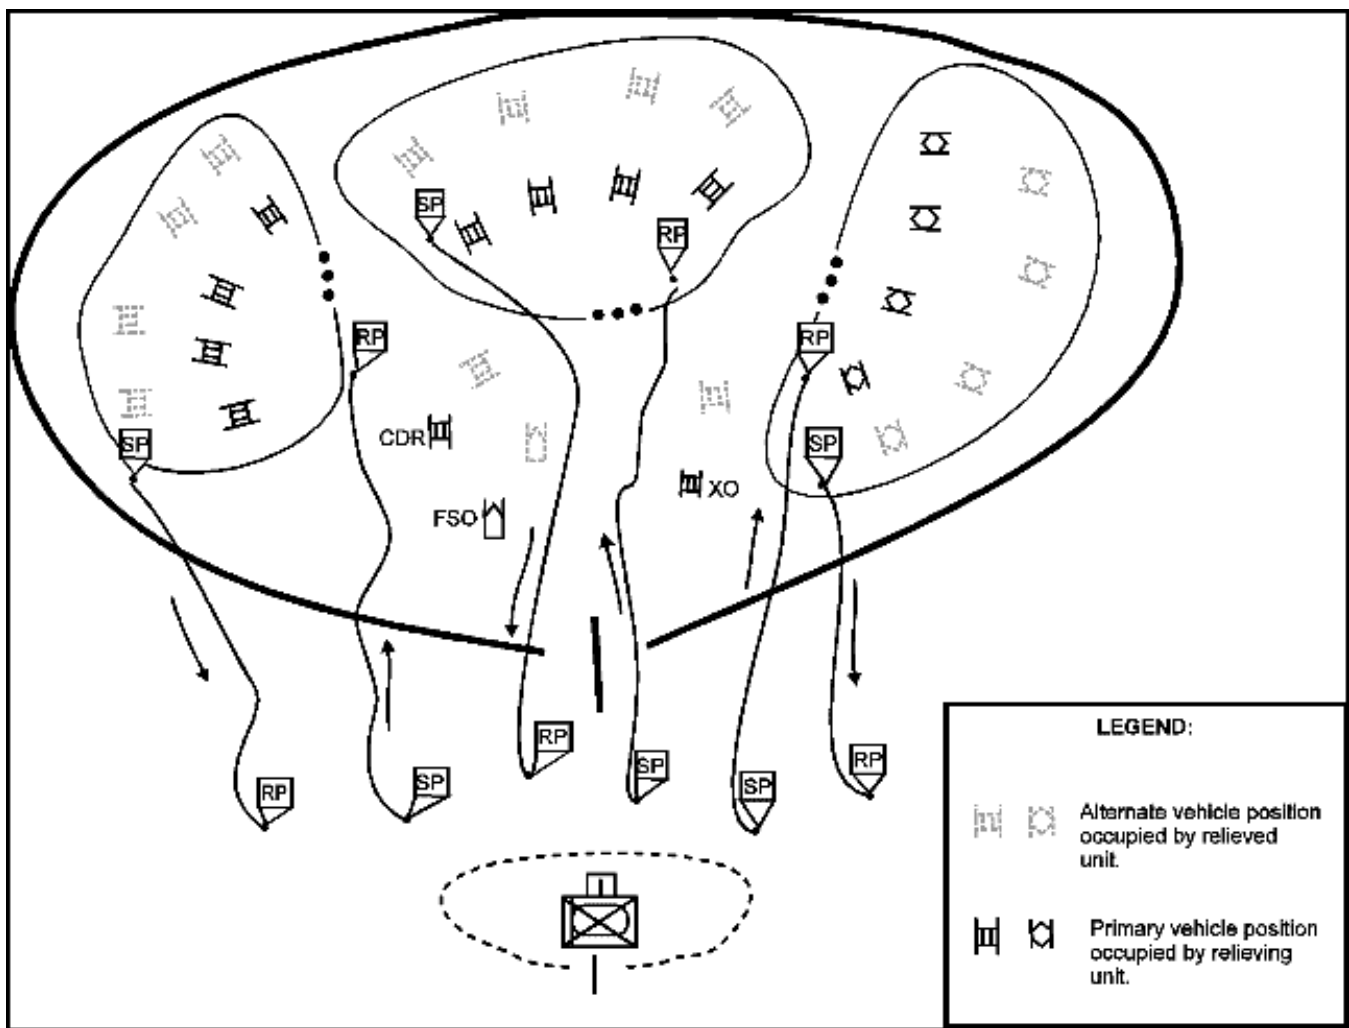

Figure 5-7. Example relief in place by alternate vehicle positions.
- By alternate vehicle and/or individual position. The relieving element occupies vehicle or individual fighting positions within the same BP as the relieved element. Refer to Figure 5-7.